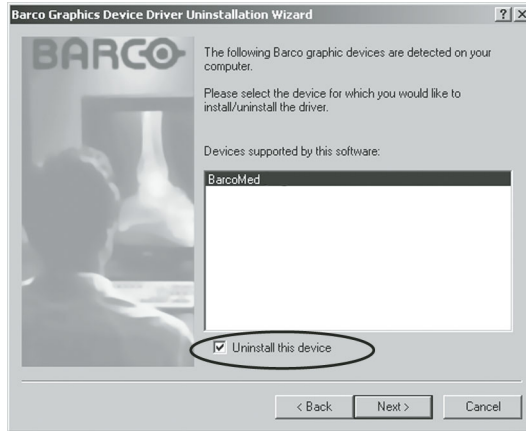

Figure 40
5. On the next screen (see figure 40 on page 100), **check** the checkbox next to "Uninstall this device" and click **"Next"** to continue.